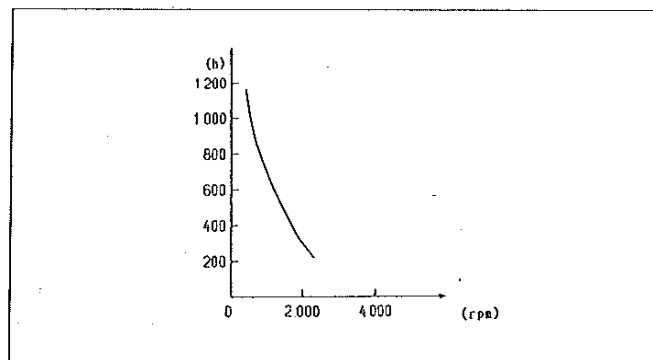

Fig.2 Fatigue life slip ring revolution speed against operating hour
- (1) 900 to 1000 hours of operation (at 500rpm) wears the brush, and abrasive dust adhered to insulating materials deteriorates the insulation resistance. Also, deposit of foreign matters on the slip ring and brush cause unstable reading.
- (2) Abrasion of brush is proportional to revolution speed. Add up operating hours and check the fatigue life of the brush by referring to Fig.2.
- (3) Contact your MinebeaMitsumi representative when insulation resistance has lowered due to dust accumulation, or when oil is impregnated into the brush, or for replacement of the brush required.